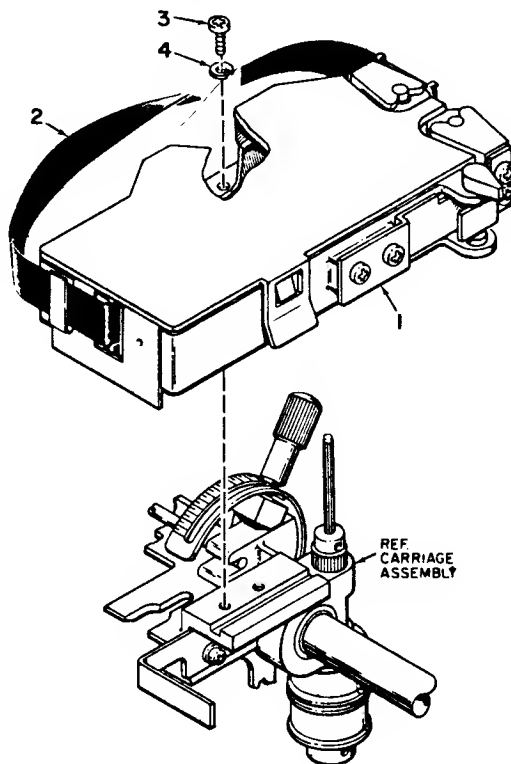

Figure 3-3B. KIT, RIBBON CARTRIDGE ASSEMBLY
3.6 RIBBON CARTRIDGE ASSEMBLY (Figure 3-3B)